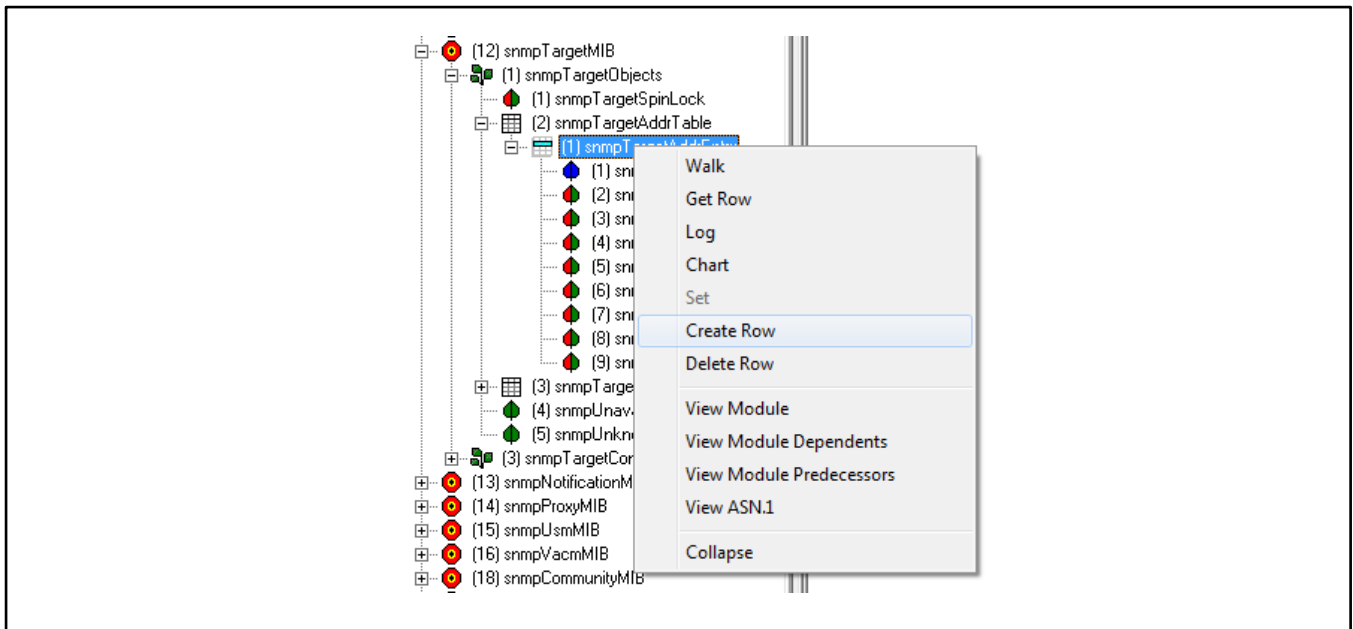
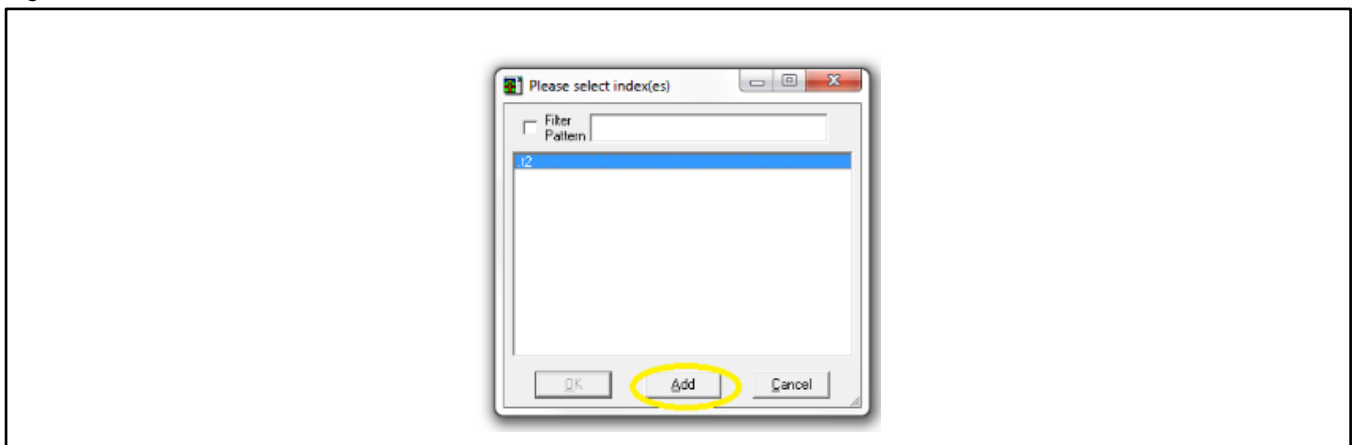
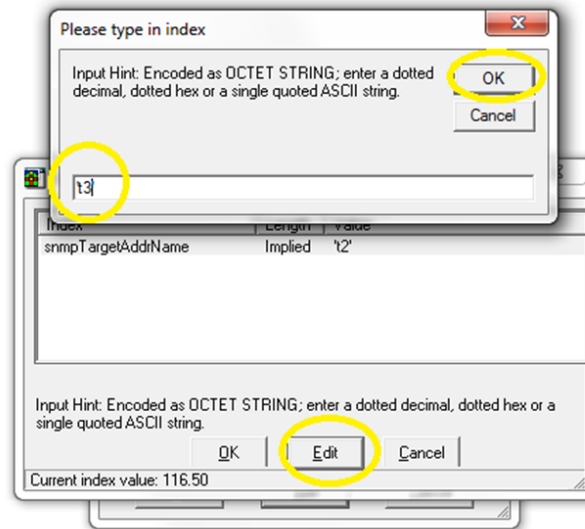

Figure 24 Create Row in Table
Figure 25 Add New Index
Figure 26 Target Address Name
- In SNMP manager application create another row and provide the necessary values. See Figure 24, Figure 25, and Figure 26.